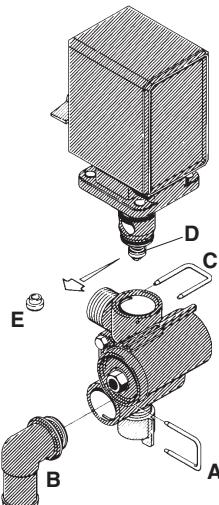

Fig 40
- 1 Cautiously remove the pressure equalization device clip (**A** Fig 40) and pull out the hose (**B** Fig 40). When the housing is drained, there should be no liquid flow through the pressure equalization device. If there is any leakage, the valve cone (**E** Fig 40) must be changed.
- 2 Remove the clip (**C** Fig 40) and lift the motor housing off the valve housing.
- 3 Then unscrew the screw (**D** Fig 40) and replace the valve cone (**E** Fig 40).